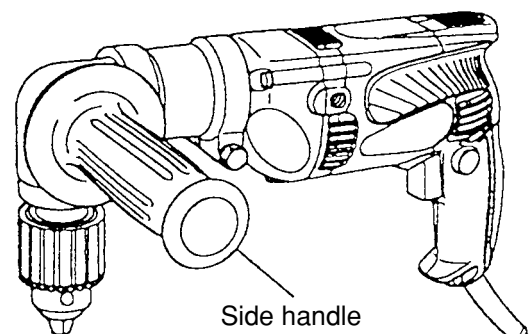

Fig. 11
(3) Installing the side handle (Fig. 11)